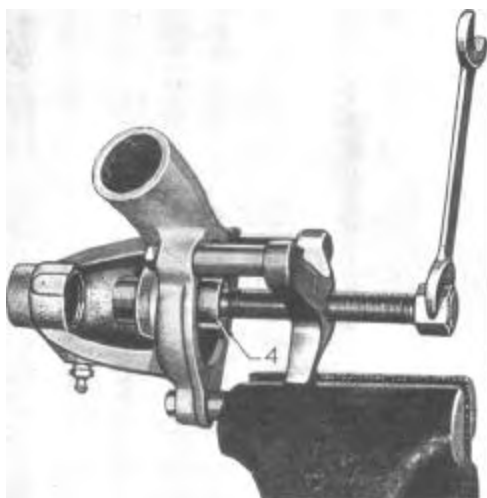

Figure 508—Pressing Rear Bearing Out
9. Assemble round pilot (4) to end of screw and push out rear bearing by tightening screw. Figure 508.